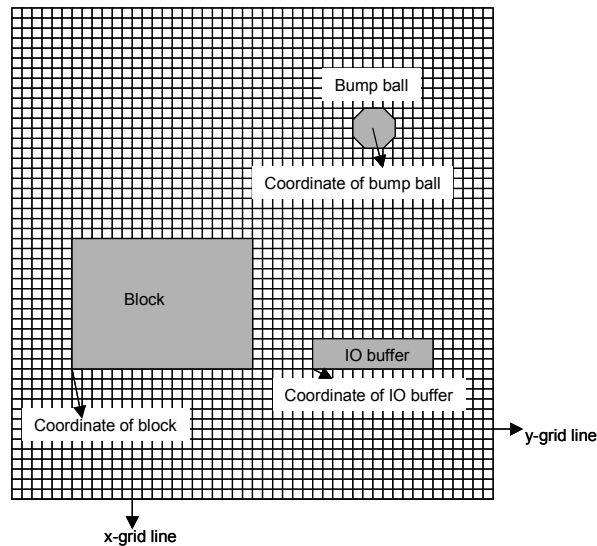

Figure 5. Illustration of “snap to grid”.
10. The locations of input buffers, output buffers and blocks must snap to grid. A grid is the minimal x-y resolution to place objects, as Figure 5 shows. All the input/output buffers and blocks have multiple-grid width and height.